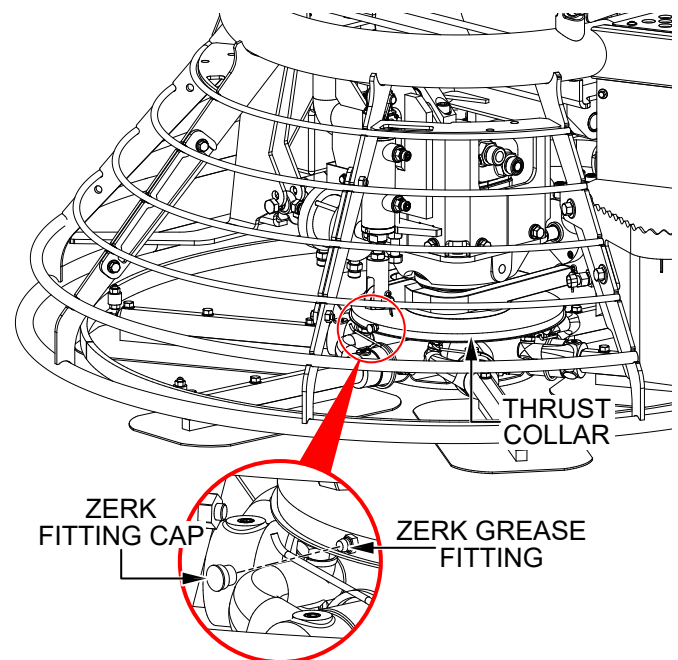

Figure 43. Thrust Collar Lubrication
1. Locate the Zerk grease fitting on either thrust collar (Figure 43). Remove the Zerk grease fitting cap and set it aside.